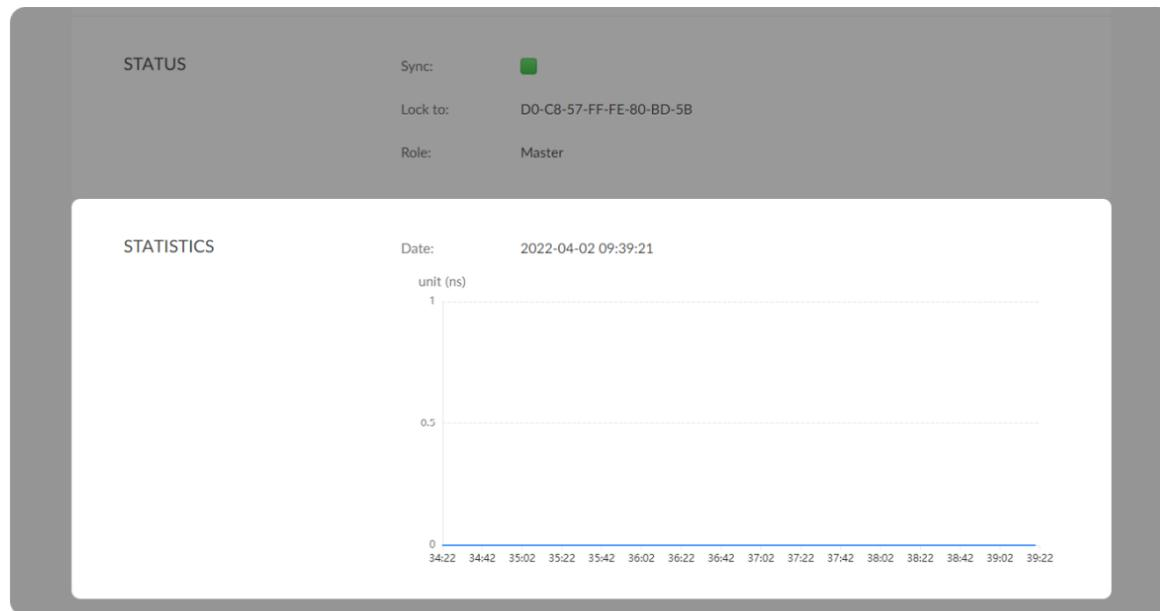

Fig1 PTP master statistics data
- **Statistical chart** shows the latest 5min statistics. Fig 1 shows a typical chart when the device works as a Master clock. Fig 2 shows how it works as a slave clock.